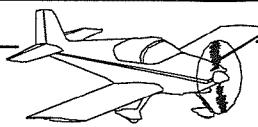

**FIGURE 2: FRONT SPAR DOUBLER RIVETS**
Step 2: Attach the VS-1015 Front Spar Doubler to the VS-1002 Front Spar using the rivets called out in Figure 2.